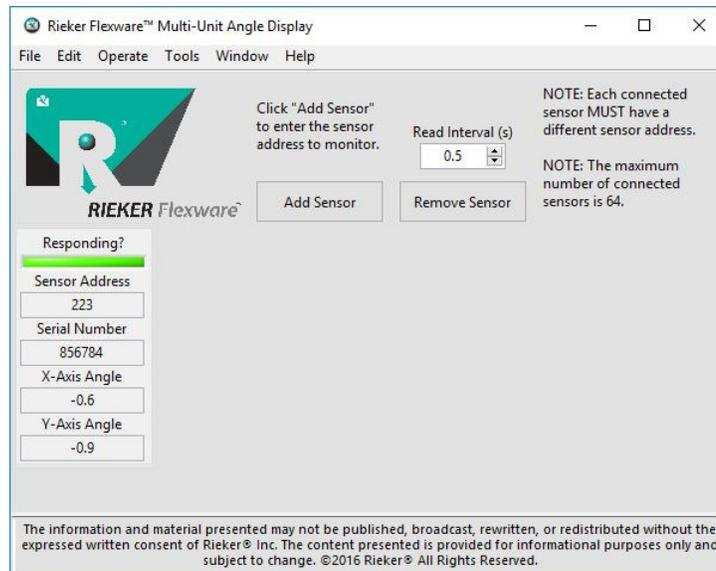

FIGURE 13: Multi-Unit Angle Display Running
4. The sensor address, serial number, and angle output will be displayed, in addition to an LED indicating whether the sensor is responding or not. (Figure 13)